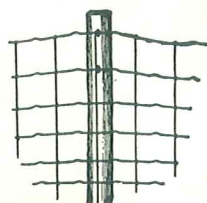

Figure 9
**Preparation for stretching:** Before you begin to stretch your fence you must of course pull it up to position against the posts. To keep it in position there drive a few staples about halfway in (wood posts) or loosely attach a few ties (steel posts) at intervals along the line (see Figure 9). This will allow the wire to slip easily, but it will prevent troublesome sagging and gaping during the stretching preliminaries.